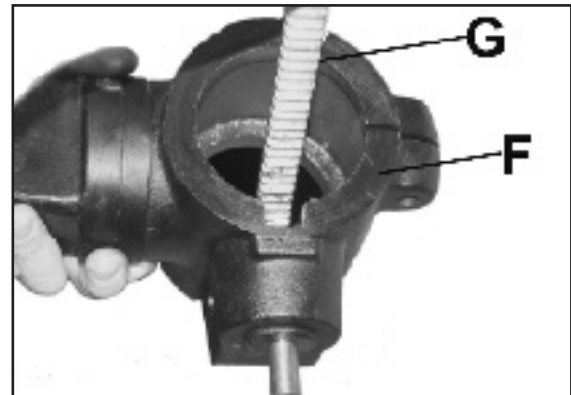

Figure 4
5. Place rack (G-Fig. 4) inside the table support bracket (F-Fig. 4) lining up the teeth as shown.